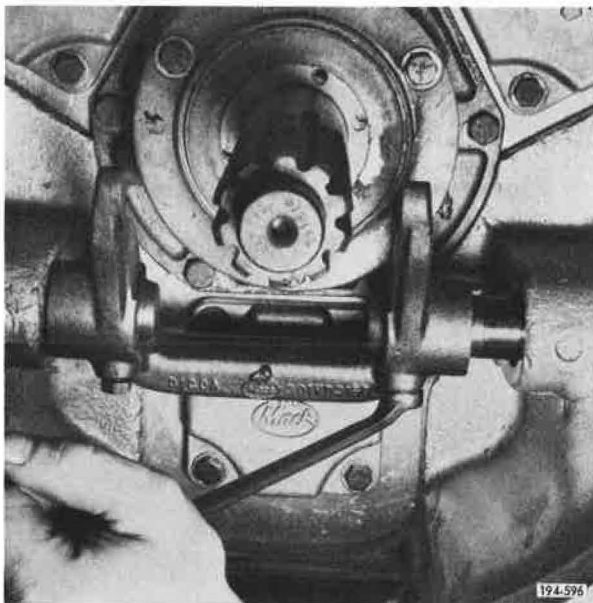

Figure 5-669. Removing Setscrews
3. Remove clutch release yoke tapered set-screws. See **Figure 5-669**.